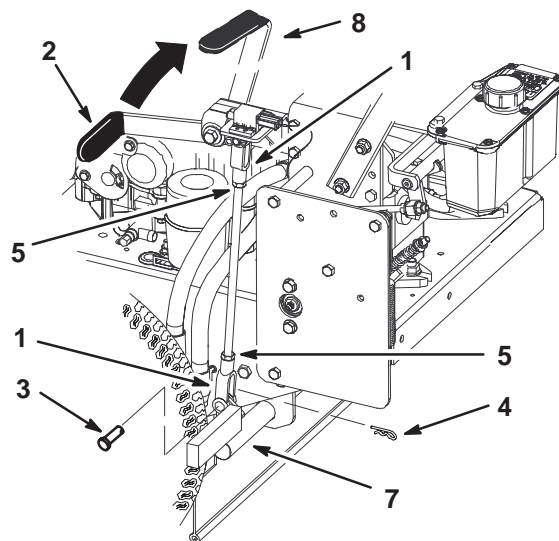

Figure 52
The brake handle is on the left side of machine (Fig. 52). If the parking brake does not hold securely, an adjustment is required.
3. Loosen the top and bottom jam nuts (Fig. 52).
4. To adjust the brake, remove the hair pin cotter and clevis pin from the lower brake lever (Fig. 52).
5. Rotate the brake rod in the yokes. To tighten the brake, lengthen the rod between the yokes. To loosen the brake, shorten the rod between the yokes (Fig. 52).
6. Secure the yoke to lower brake lever with the hair pin cotter and clevis pin (Fig. 52).
7. Tighten the top and bottom jam nuts (Fig. 52).